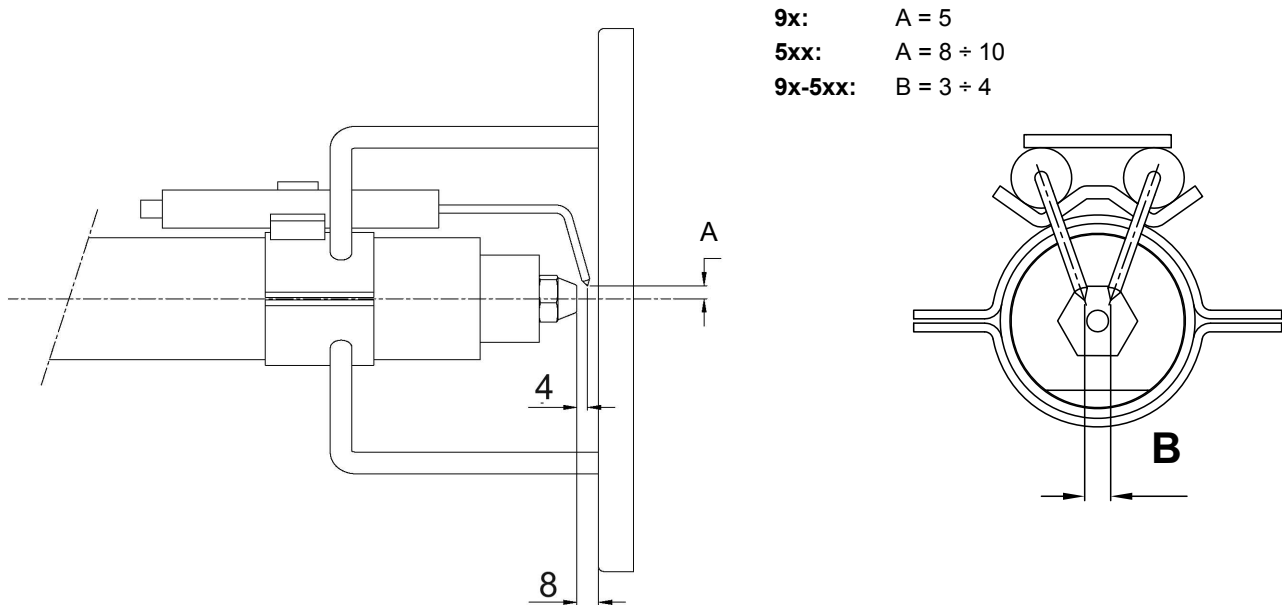

Fig. 10
- 4 loose screw (B) that fasten the ignition electrodes;
- 5 remove the electrodes and replace them, referring to the values quoted on Fig. 10.